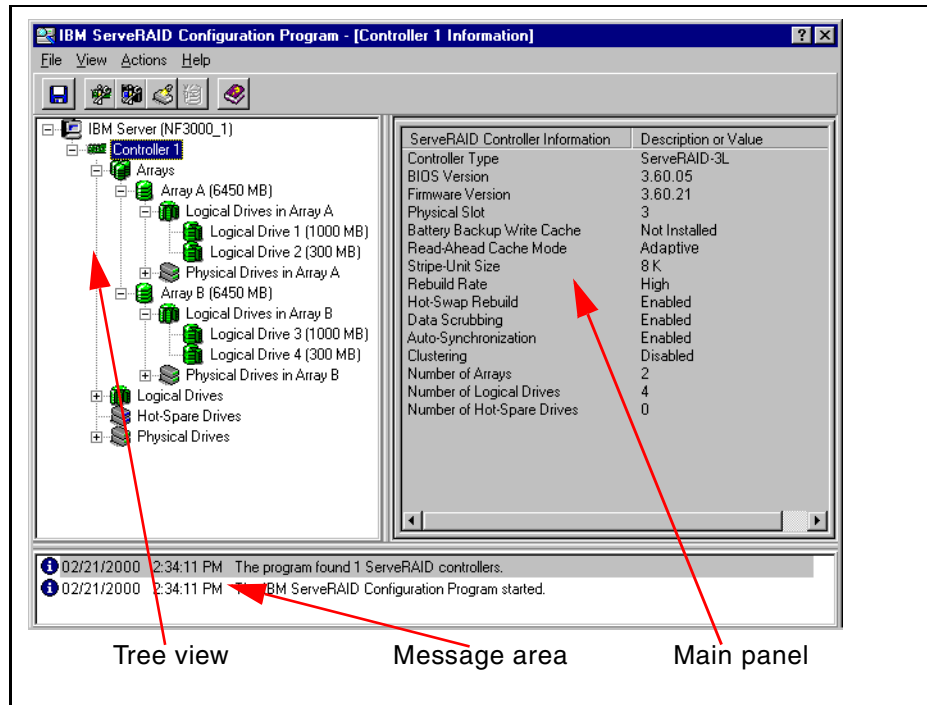

Figure 29. ServeRAID Configuration Program in information mode
There are three panels in the Configuration Program window as shown in Figure 29. You select the object you wish to work on in the tree view and the information about that object is displayed in the main panel:
- *Information mode* — Information relevant to the currently selected object will be displayed. When this mode is active, you can use the functions available from the menu and tool bars to customize settings for the controllers. Figure 29 shows the utility in information mode.